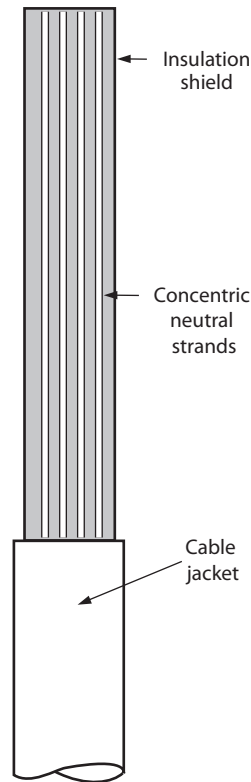

Figure 2. URD cable with jacket removed
1. **Prepare the cable and remove the cable jacket** per the supplied elbow instructions. There should be a maximum of 2.5 inches between the bottom of the elbow or terminator to the jacket stripback point. (See Figure 2.)